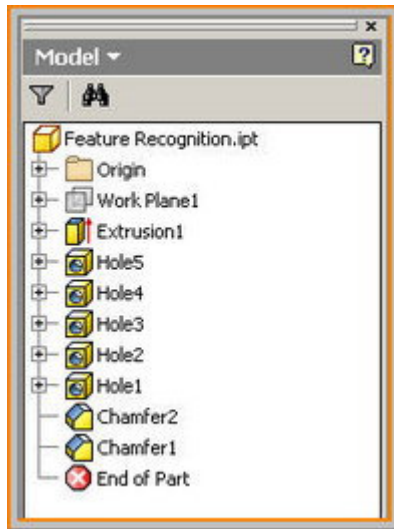
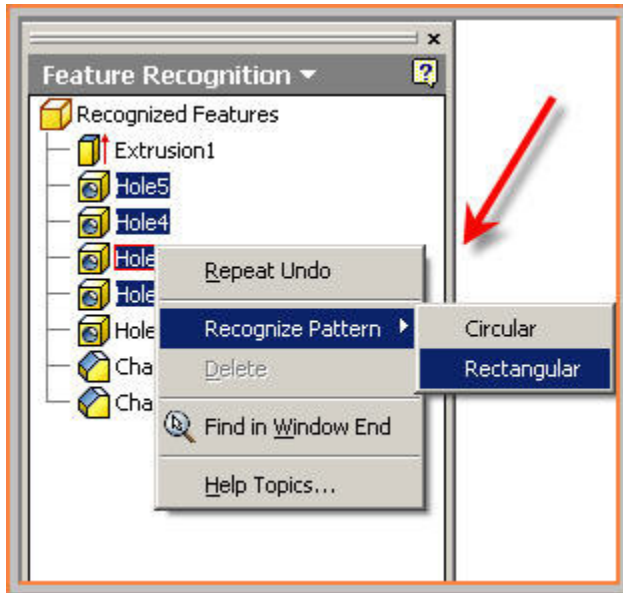

Figure 10
Figure 11
Step 10: Now click on Return in the standard tool bar and you will be prompted with: "There are some recognized features, do you want to create them?" Click on Yes and you will have the actual Inventor feature file. To justify this, try to change the extrusion height from 10 to 15 mm. If you are able to do it, then your part file is native Inventor format. Further change the color to Black Chrome. Figure 10 shows all of the operations. If you need to make some hole features as rectangular array, you can select those and execute them as a Rectangular Pattern, as shown in Figure 11.